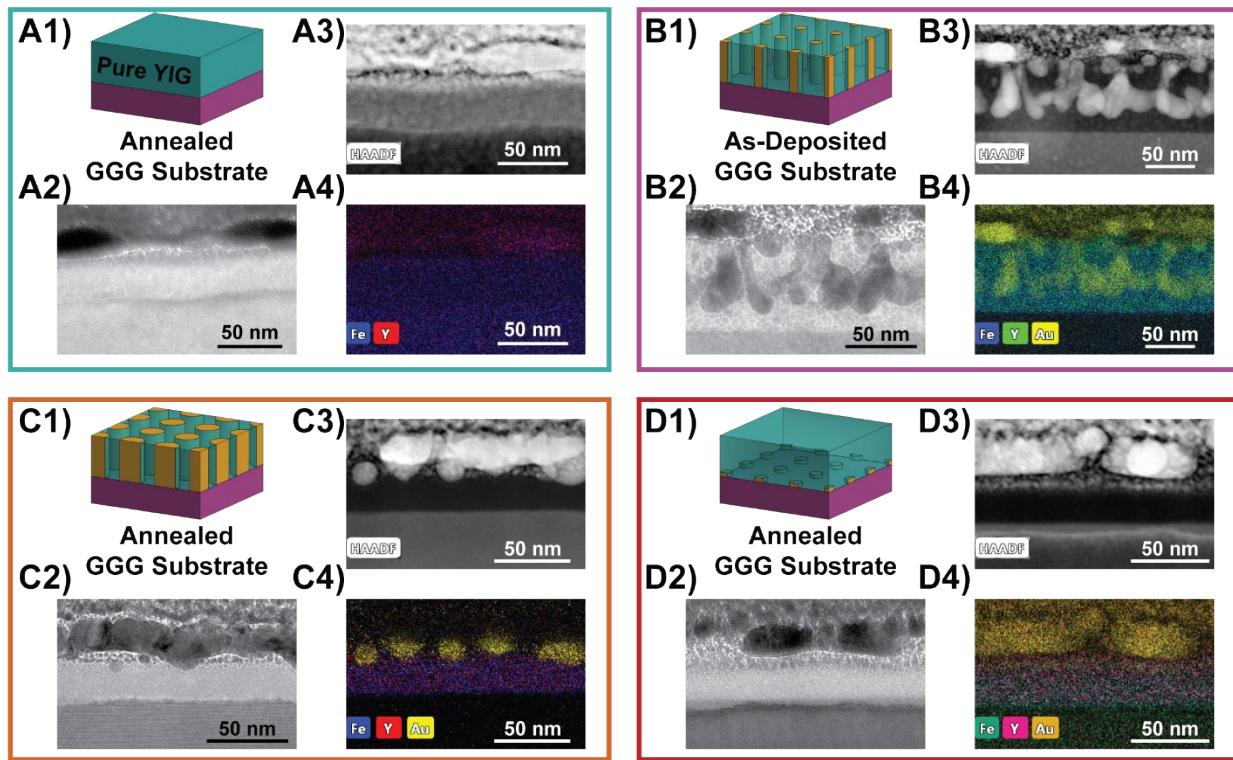

Figure S11: On GGG substrates: A) Annealed Pure YIG, B) As-Deposited Thin Au Strip, C) Annealed Thick Au Strip, D)
**Figure S11:** On GGG substrates: A) Annealed Pure YIG, B) As-Deposited Thin Au Strip, C) Annealed Thick Au Strip, D) Annealed Au Buffer. 1) Ideal schematic drawing of the sample, 2) TEM image of the sample 3) STEM image for the corresponding EDS map of the sample, 4) EDS map of the sample.